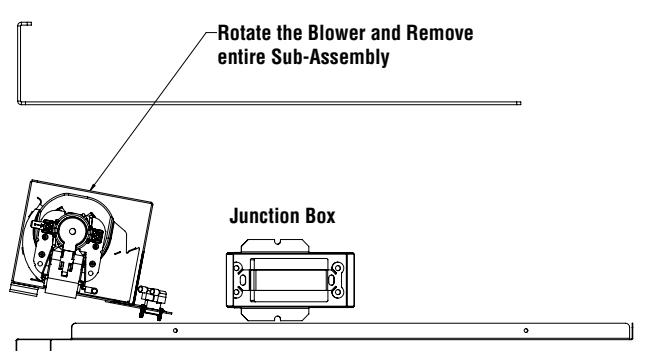

Figure 17B
8. Rotate the blower forward and remove it from underneath the firebox (**Figure 17B**). Disconnect the insulated quick connects from the motor terminals and attach to the new motor assembly. Re-install in reverse order.